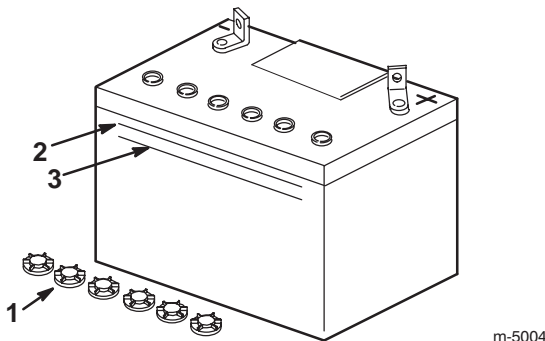

Figure 55
The electrolyte must be up to the Upper line (Fig. 55). Do not allow the electrolyte to fall below the Lower line (Fig. 55).
3. Remove the vent caps from the battery (Fig. 55).
4. Slowly pour distilled water into each battery cell until the electrolyte level is up to the Upper line (Fig. 55) on the battery case.
5. Wait five to ten minutes after filling the battery cells. Add distilled water, if necessary, until the electrolyte level is up to the Upper line (Fig. 55) on the battery case.